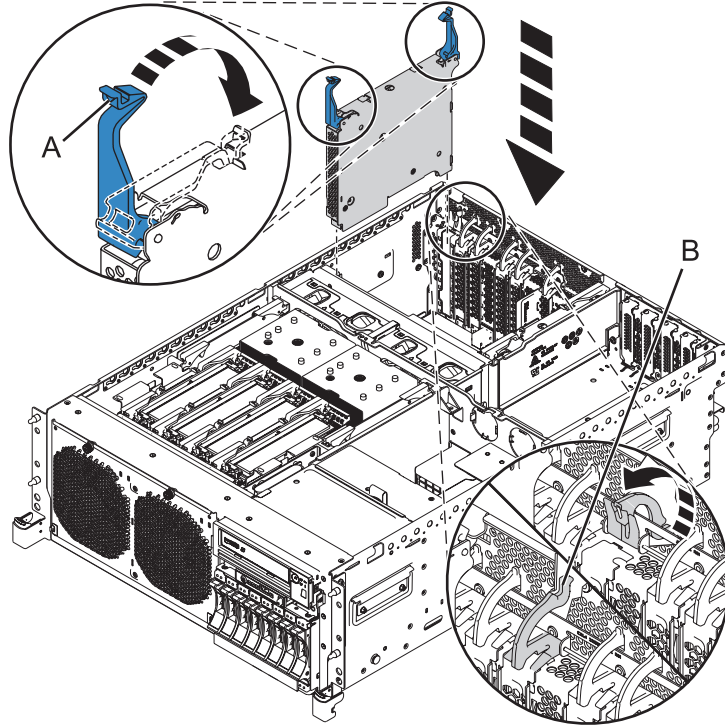
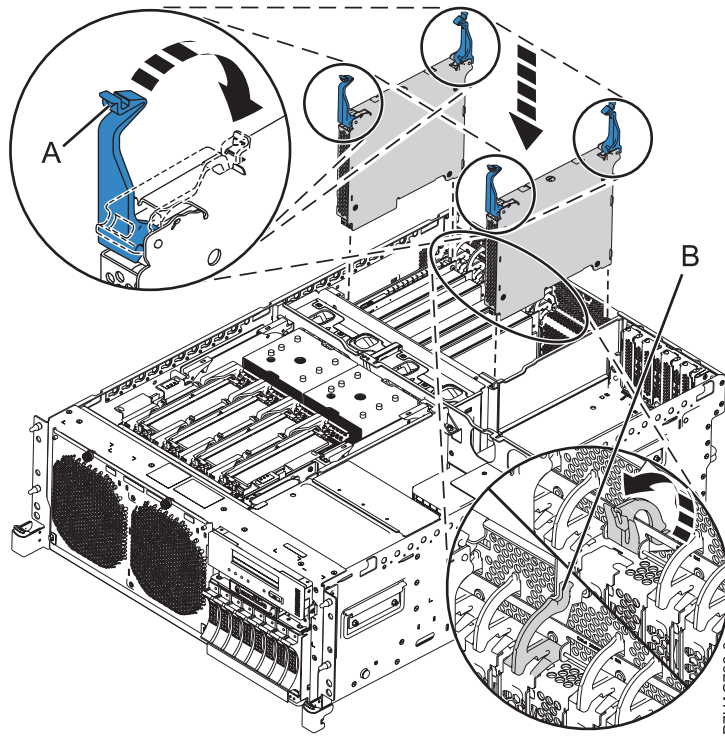

Figure 9. Installing the GX adapter in a rack-mounted 02E/4B or 05F/6B system
Figure 10. Installing the GX adapter (FC EJ03) in a rack-mounted 02E/4C or 05E/6C system
3. Evenly rotate the latches **(A)** into the locked position, as shown in Figure 9 on page 11 and Figure 10 on page 11.